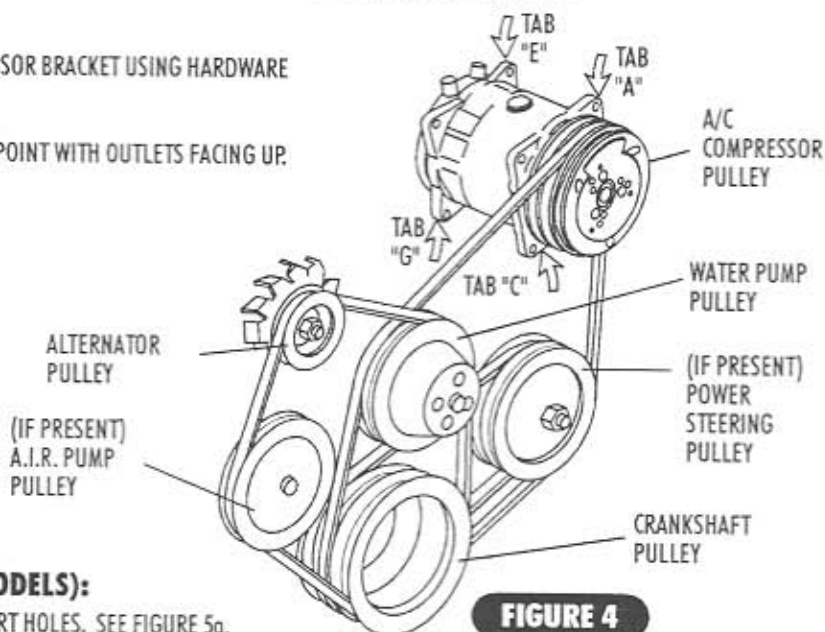

FIGURE 4
- THE BELTS AND PULLEYS ARE IN THE SAME ORDER AS ORIGINAL. CHECK ALIGNMENT OF PULLEYS. IN MOST INSTANCES THE BELT LENGTHS WILL REMAIN THE SAME AS ORIGINAL. SEE FIGURE 4.